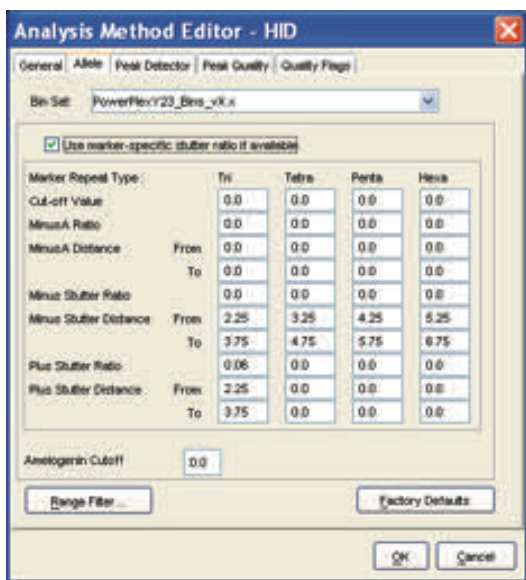

Figure 19. The GeneMapper® ID Software Allele tab.
6. Select the Allele tab (Figure 19).
9. Enter the values shown in Figure 19 for proper filtering of stutter peaks when using the PowerPlex® Y23 System. For an explanation of the proper usage and effects of these settings, refer to the Applied Biosystems user bulletin titled “*Installation Procedures and New Features for GeneMapper ID Software 3.2*”.